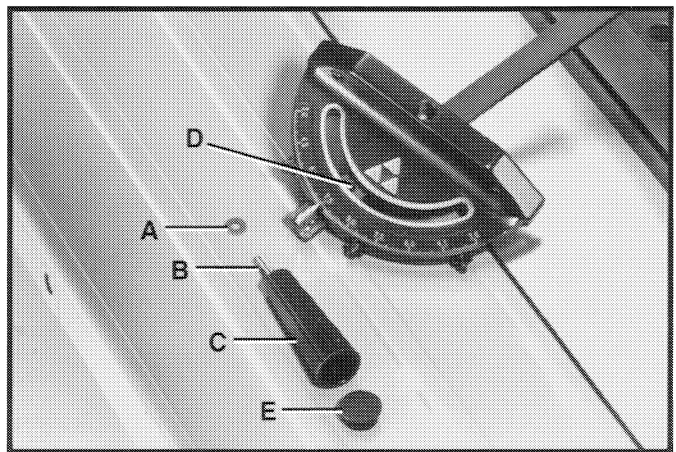

Fig. 52
1. Place washer (A) Fig. 52, on screw (B) and thread screw (B) and handle (C) into hole (D) of miter gage bar. Insert hole plug (E) into end of handle (C).